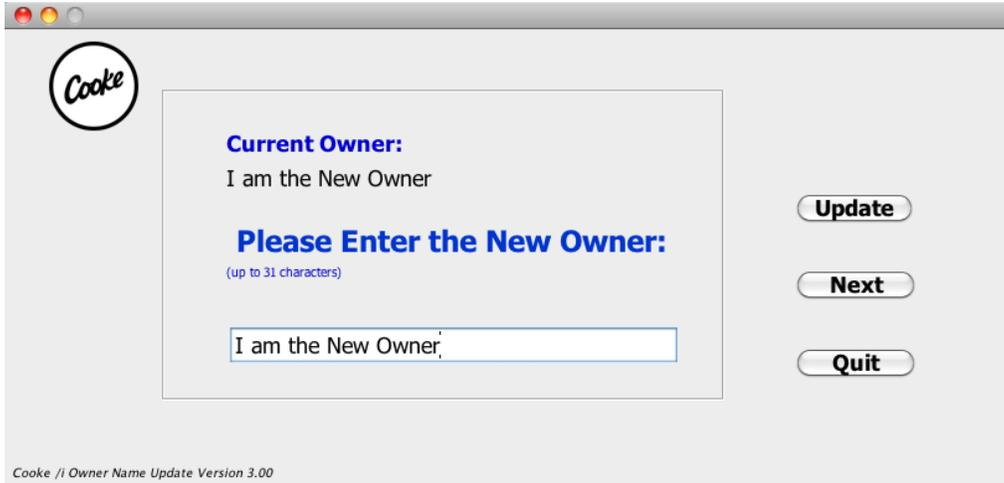

Figure 3 Owner Updated
- Input the name of the new owner, and then click the **Update** button, the newly input owner name is displayed at the top of the screen as shown in Figure 3.